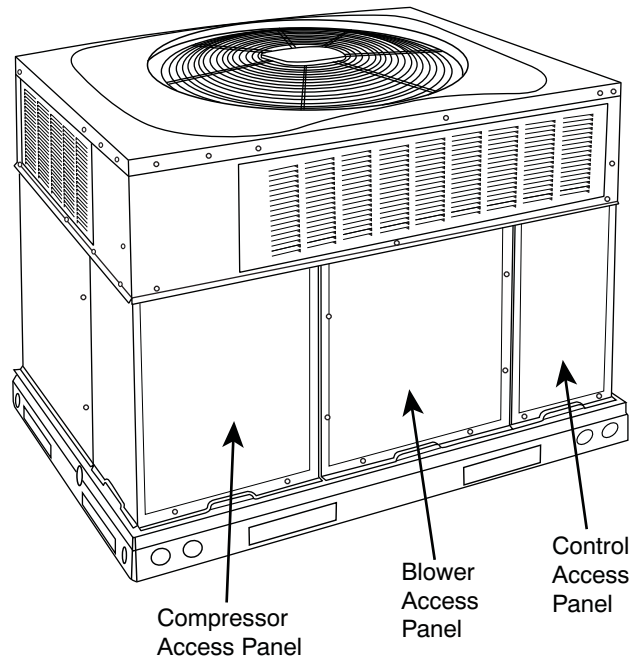

Fig. 21 - Unit Access Panels
- g. Reinstall blower access panel (see Fig. 21).